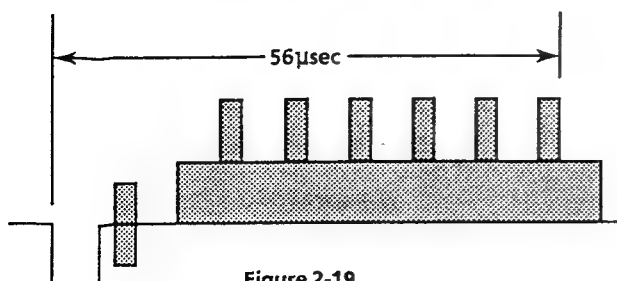

Figure 2-19.
3. Adjust C5901 so that the time period between the horizontal sync and last character is 56 $\mu$ sec as shown in Figure 2-19.